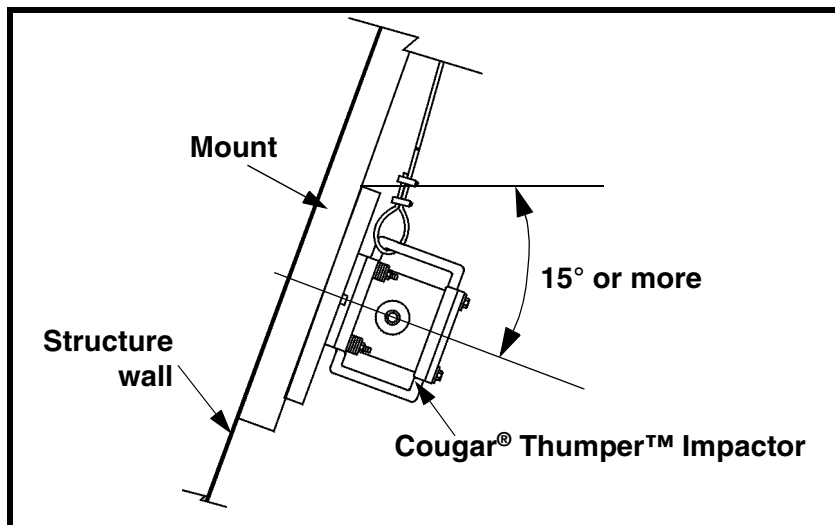

Figure 4. Mounting Cougar® Thumper™ Series Timed Impactor
Cougar® Thumper™ Series Timed Impactor must be mounted with a minimum slope of 15° below horizontal. (See Figure 4.)
1. If using Cougar® Thumper™ Series Timed Impactor, ensure mounting location has a minimum slope of 15° below horizontal. (See Figure 4.)